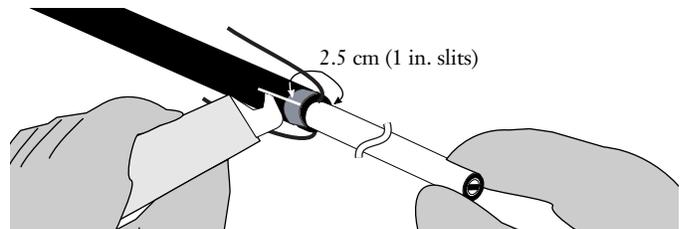

Figure 16
- Position the blade of the hook blade knife under the sheath at the tape mark. Carefully slit the sheath and water-swollable tape approximately 2.5 cm (1 in.) past the tape wrap (Figure 16). *Do not cut into the central tube.*